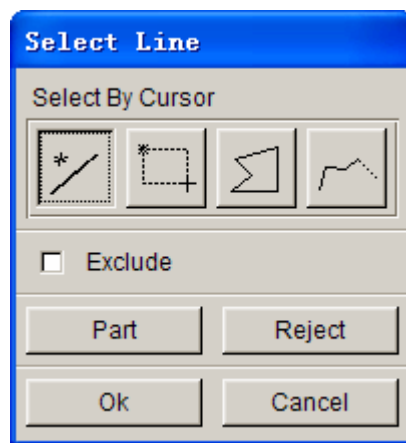

Figure 22: Select line dialog box
3. The **Select Line** dialog box shown in Figure 22 is displayed.